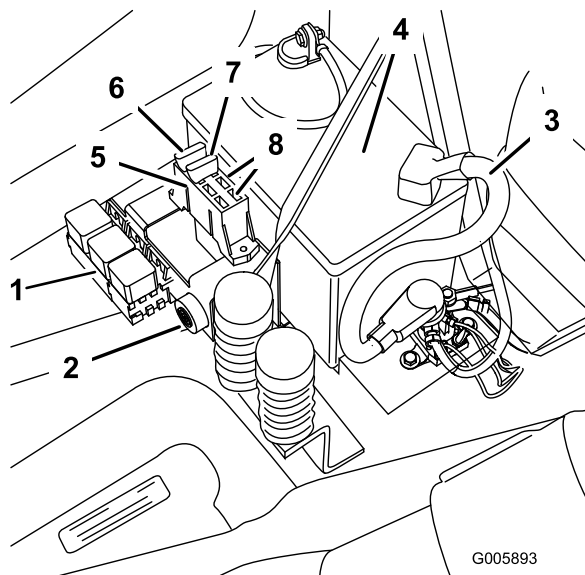

Figure 46
1. Raise the seat to gain access to the fuse holder (Figure 46).
2. To replace a fuse, pull out on the fuse to remove it (Figure 46).